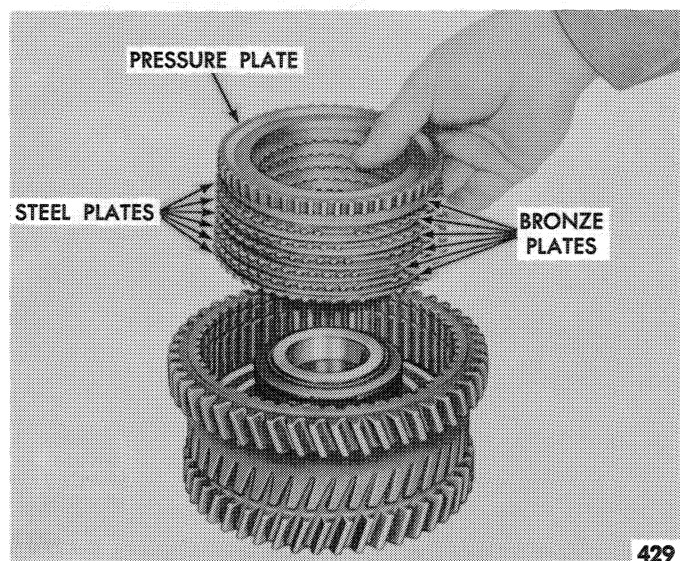

Figure 115—Removing the Clutch Plates
2. Remove the pressure plate and bronze and steel plates from the clutch housing, shown in Figure 115.